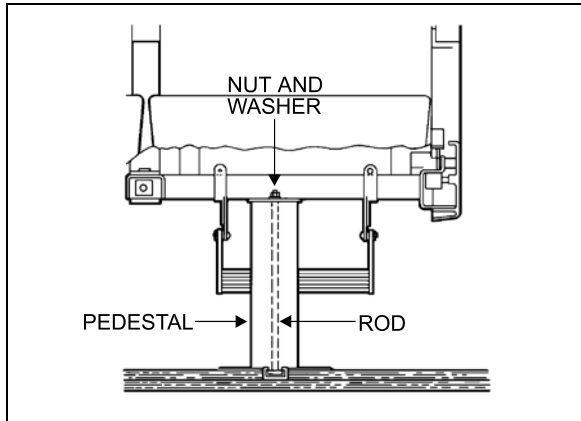

FIGURE 46: SEAT PEDESTAL ASSEMBLY 18107
5. Remove 2 nuts and washers holding seat frame to pedestal rods. See figure 46.